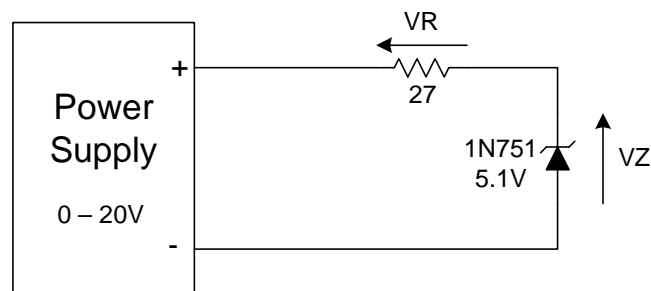

Figure 1: Circuit to measure Zener breakdown characteristics
1.1 Build the circuit in Figure 1.